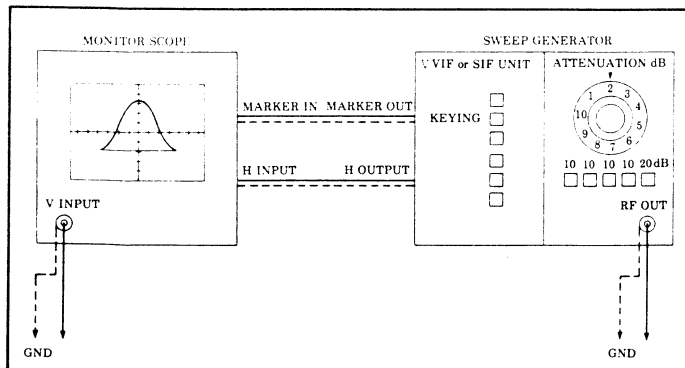

Fig. 27 Connection of Measuring Equipment
2. Connect the VIF Sweep to TP703 and connect the Monitor Scope to TP707 as shown in Fig. 27.
2. Connect the VIF Sweep to Test Point of the Tuner and connect the Monitor Scope to TP707 as shown in Fig. 27.
5. Connect the JIG to both points P703-(11) and TP709 as shown in Fig. 27 and adjust VR1 so that the VIF waveform becomes maximum, and adjust the VIF sweep output so that the VIF waveform becomes 1.0Vp-p.
9. Adjust T701-(E) so that the 41.5MHz trap becomes minimum.
10. Adjust T701-(C) so that the 31.5MHz trap becomes minimum.
11. Adjust the Tuner converter coil and T701-(A), (B), (D), (F) so that the VIF waveform becomes as follows.